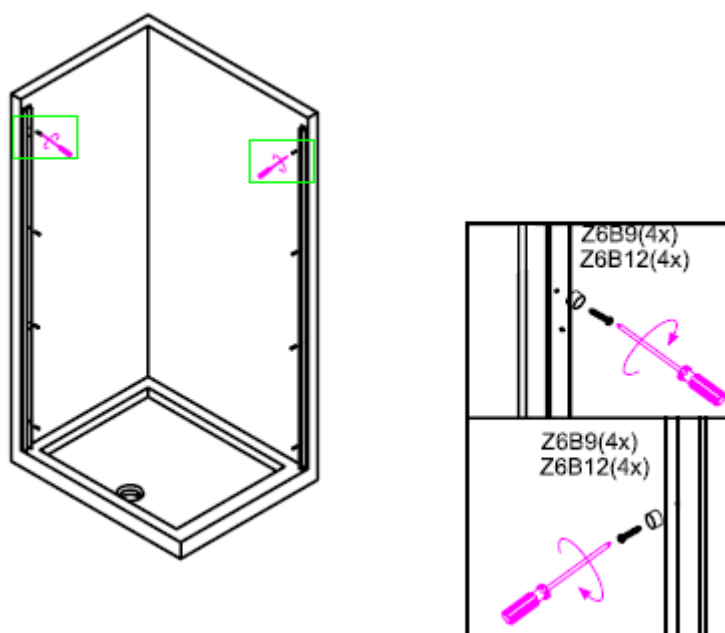

Figure 2
2. Fix the wall profile(Z6B1) and (Z6B16) to the wall by using screw(Z6B9) with caps, as showed in figure 2.